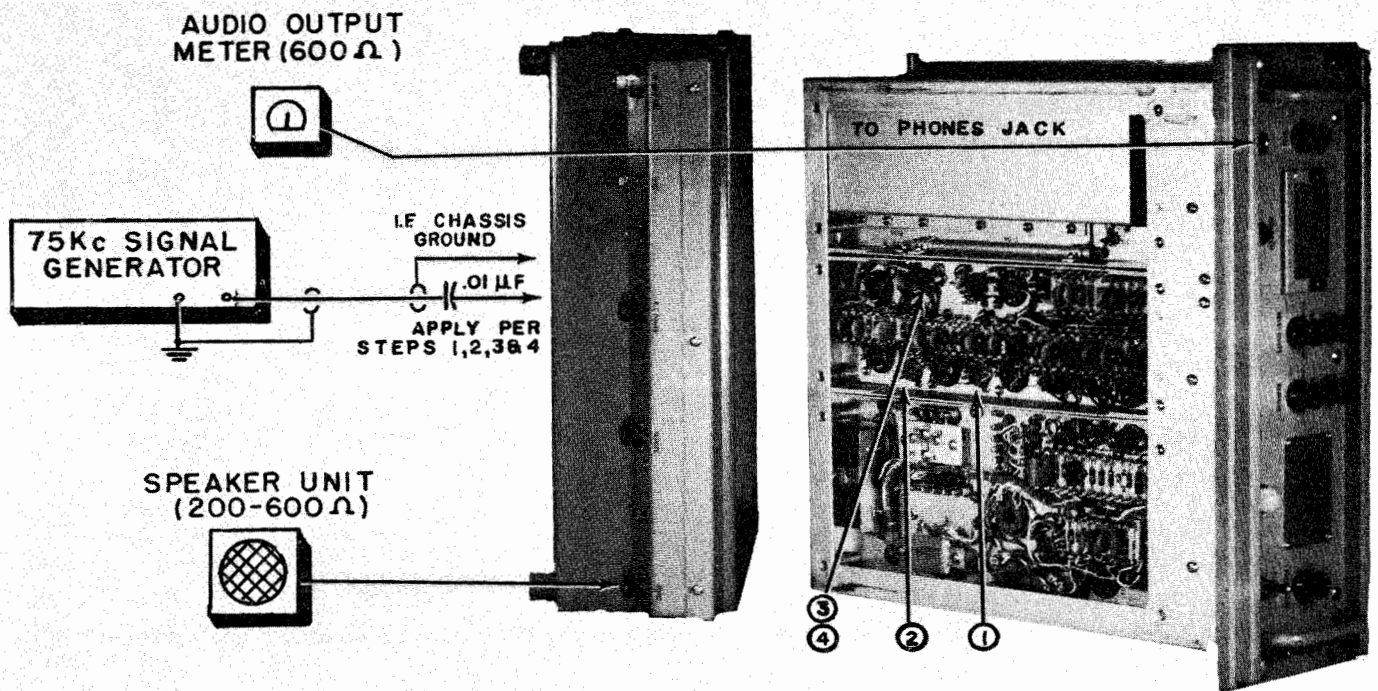

Figure 7-2. Photo—75 Kc IF Amplifier Alignment Set-up
(4) Connect an audio load of 200-600 ohms impedance to the AUDIO receptacle J505 (pins A and B), located on the rear panel of the cabinet. This load can be a speaker, an audio output meter, or a resistance. (See Fig. 7-2.)
(1) Align 75 Kc IF stages. (See Fig. 7-2, Table 7-2.)
(2) Tune BFO to proper frequency. (See Fig. 7-2, Table 7-2.)
(1) Set up the receiver chassis and test equipment, as indicated in Figure 7-2.
(2) Prepare the 75 Kc signal generator for use by adjusting it to exactly 75 Kc with a Frequency Meter. Proceed with the alignment as outlined by steps 1 to 4 in Table 7-2.